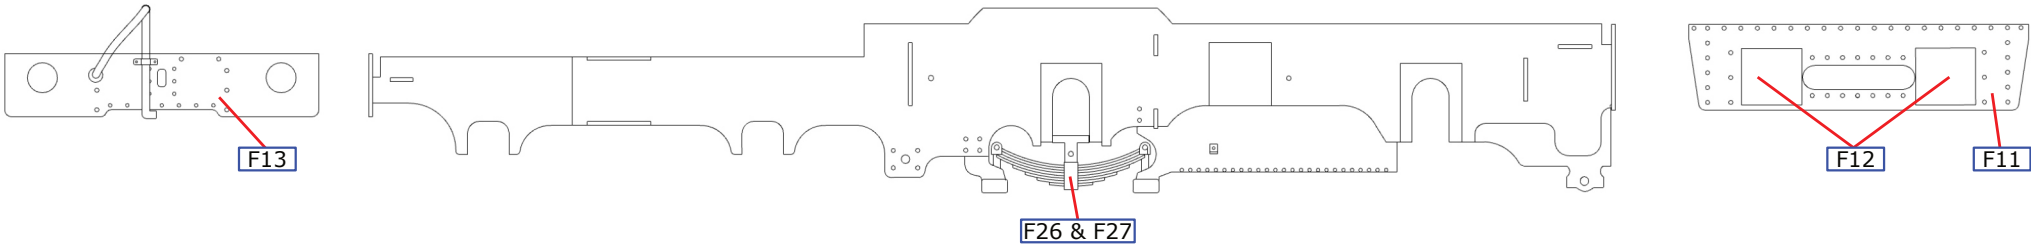

Fig 6. Buffer & Drag Beams
**Springs.** Solder together the three laminations of the inside frame spring, inner and two outer (F26 & F27) before fixing in place inside the spring hangers (See Fig 6).